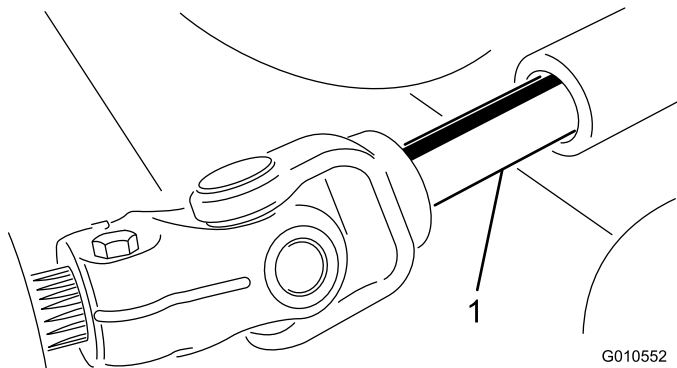

Figure 20
- Roll the cutting unit away from the traction unit, separating the male and female sections of the PTO shaft (Figure 20).
- Slide the male PTO shaft into the female PTO shaft (Figure 20).